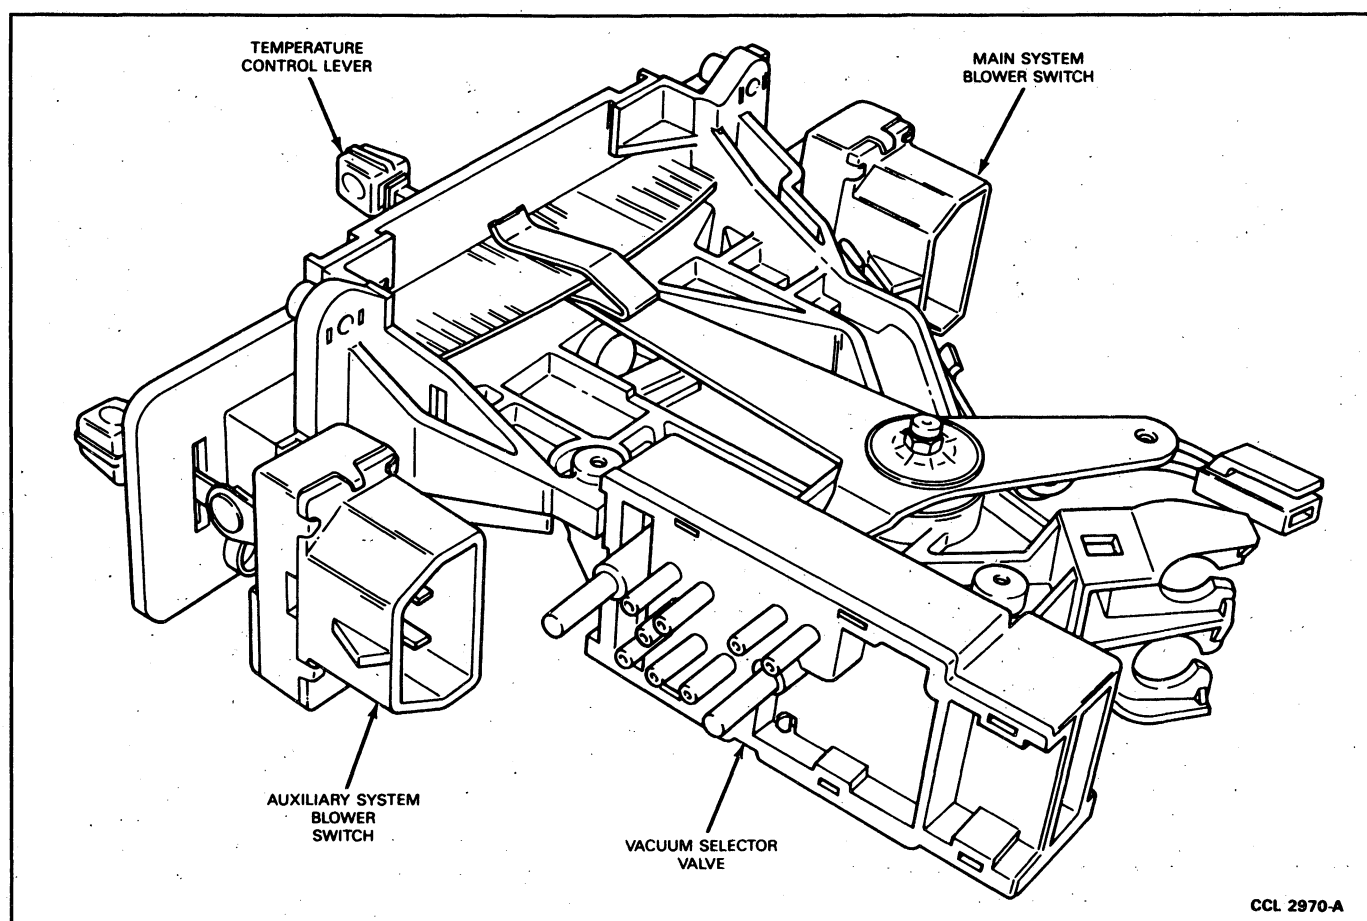

FIG. 7 Vacuum Selector Valve
6. Remove two screws retaining vacuum selector valve to control assembly. Remove vacuum selector valve (Fig. 7).